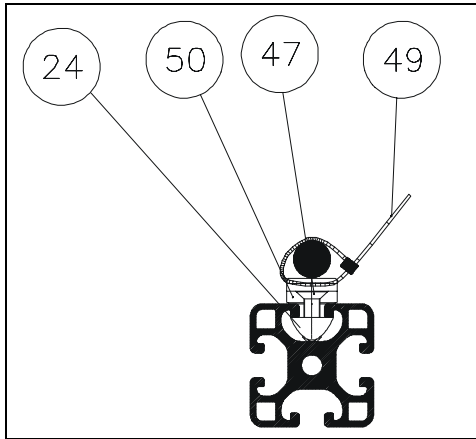

Figure 15: Securing Welding Cable to Side Beam (top view)
25. See Figure 15. Run the welding gun cable through the opening in the left corner, side B, of the tabletop.